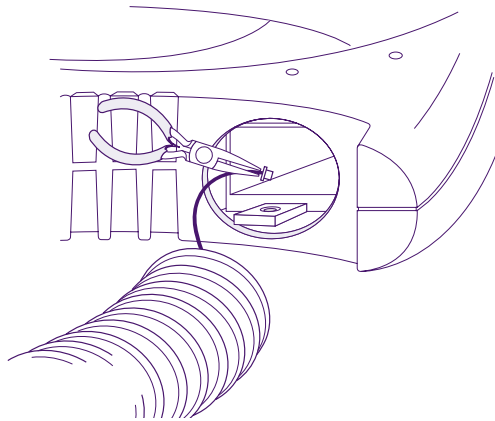

Figure 10. Wire connector.
6. Unplug the wire connector so the hose assembly is separated from the unit (see Figure 10).
- Disconnect the hose and the temperature controller wire connector (see Figure 10).